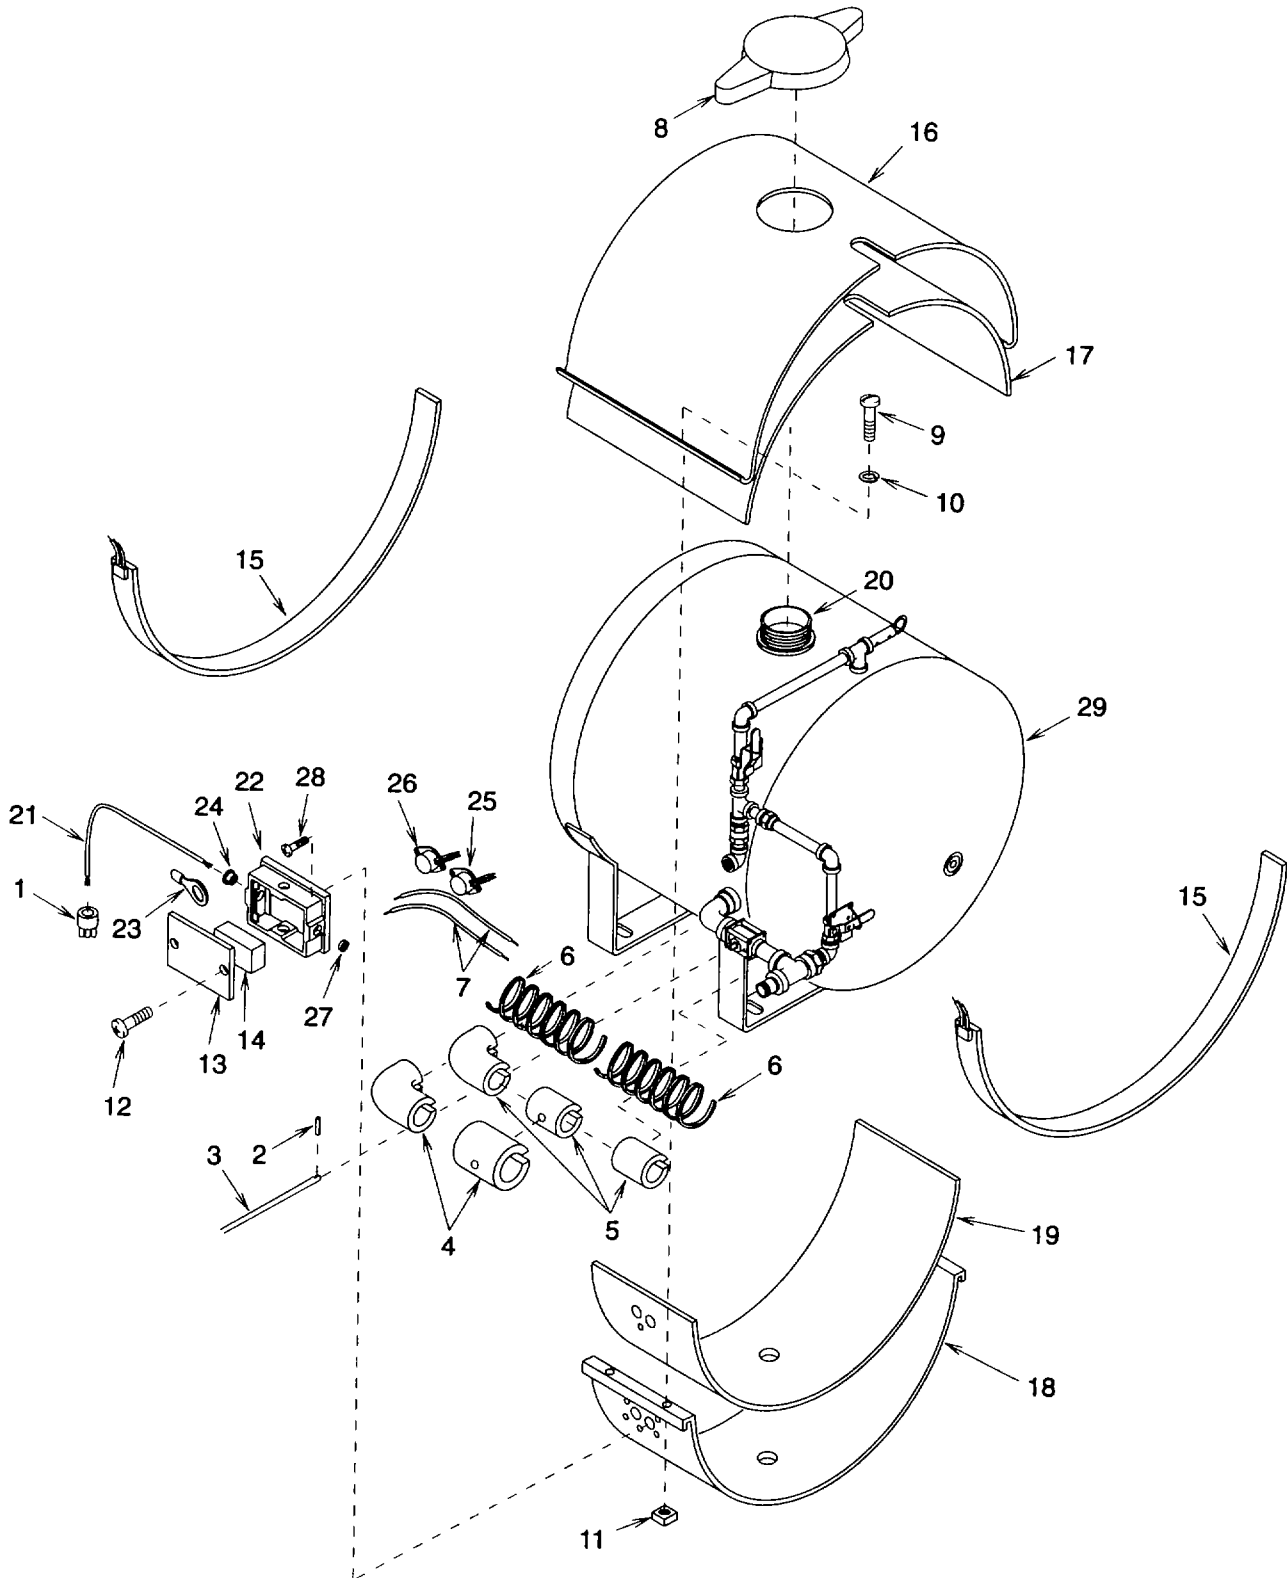

Figure 4-22. AFFF Tank Heater Assembly
- a. **Disassembly** (See figure 4-22.)
c. Assembly (See figure 4-22)
- (1) If using new heater blankets (15), peel backing paper off to expose adhesive. Attach heater blankets to tank (29).
- (2) Install enclosure (22) and four screws (28).
- (3) Install knock out plug (27).